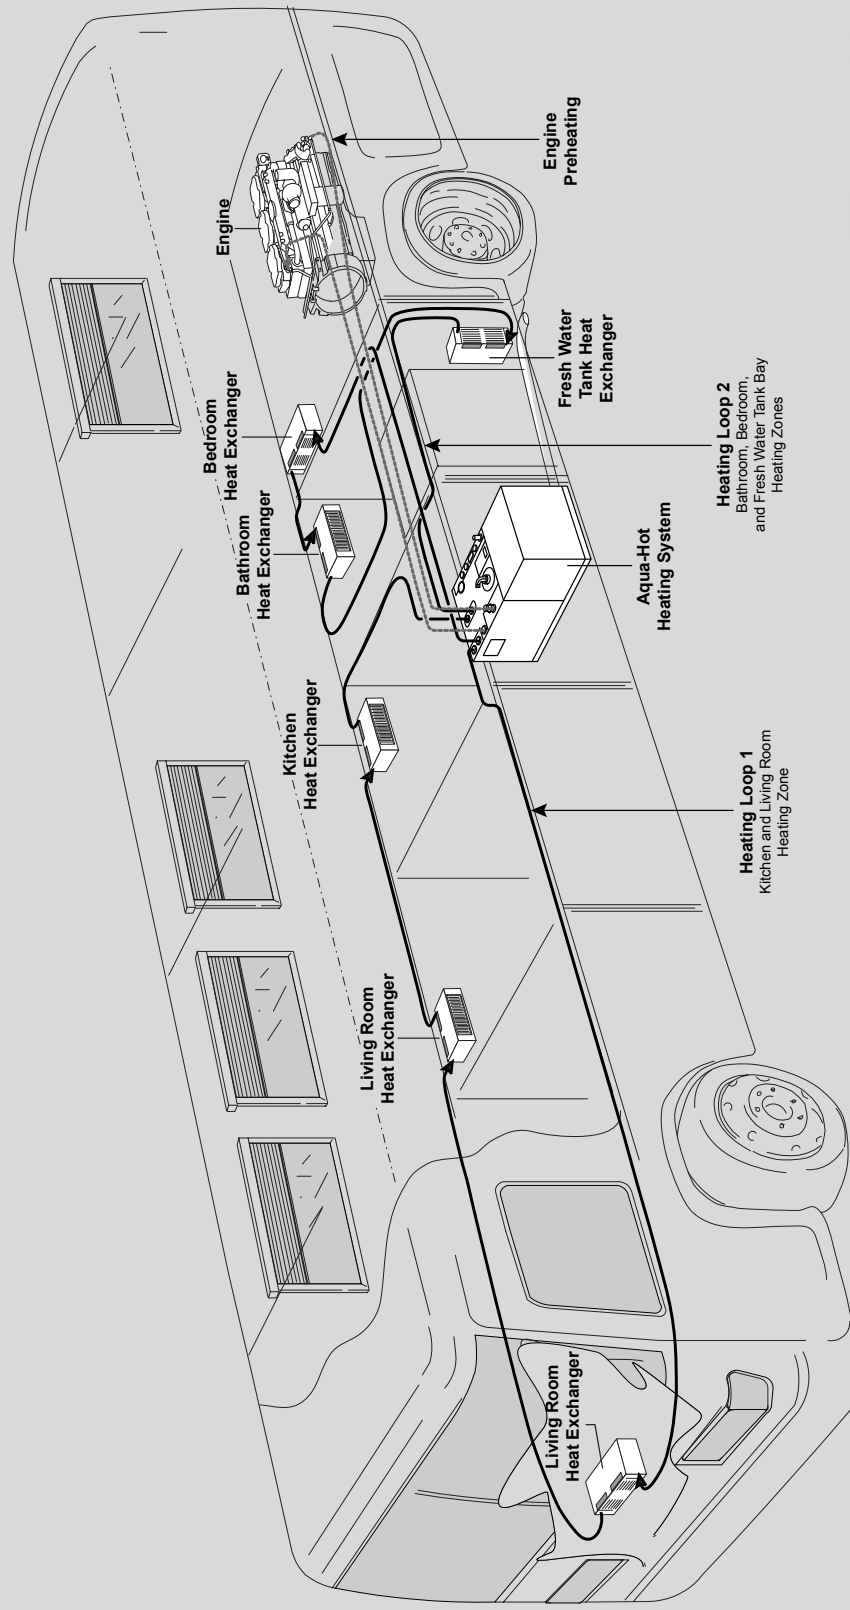

Figure 13
- The Kitchen and Living Room Heat Exchangers (typically three) must be plumbed together **in-series** on “Heating Loop 1.” Reference Figures 13 and 18.
- The Fresh Water Tank, Bedroom, and Bathroom Heat Exchangers (typically 3) must be plumbed together **in-series** on “Heating Loop 2.” Reference Figures 13 and 18.